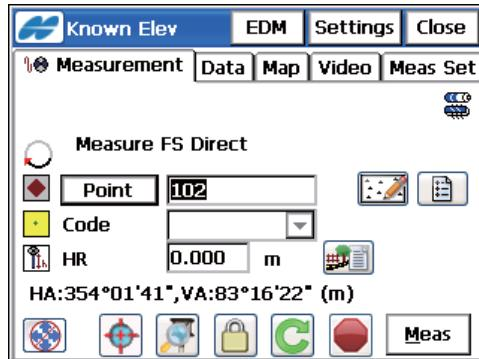

Figure 8-18. Known Elev
- **Next** – opens the **Known Elev** screen (Figure 8-18 on page 8-16).